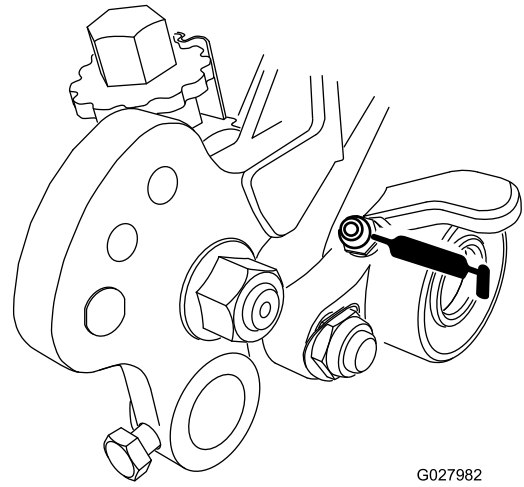
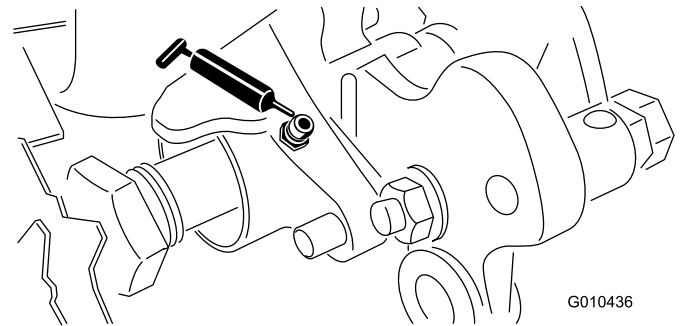

Figure 17
Figure 18
33. Lubricate the groomer bearings (Figure 17 and Figure 18) weekly or after every 10 operating hours, before extended periods of non-use and immediately after every washing. Pump grease into the fittings until the grease is purged onto the groomer shaft. Wipe any excess grease from the seals and shaft.